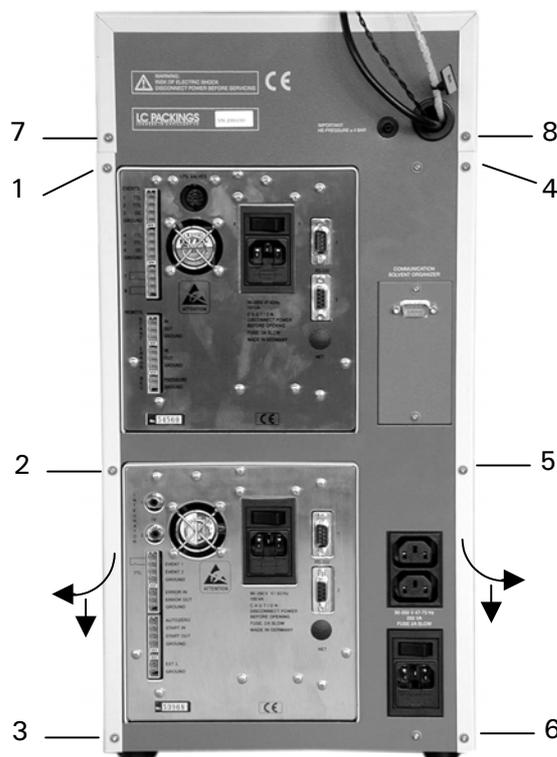
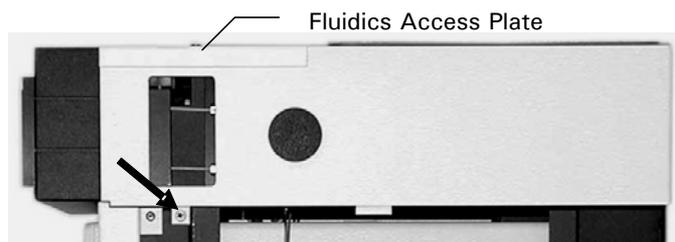

FIGURE 3-20. Rear View of UltiMate
FIGURE 3-23. Removing the Top Cover (Side Panels removed)
- b) Remove the six screws on the rear of each side panel (items 1-6; FIGURE 3-20).
- c) Remove the two screws of the top cover on the back side (items 7, 8; FIGURE 3-20), the screw on the right side (FIGURE 3-23) and the corresponding screw on the left side.